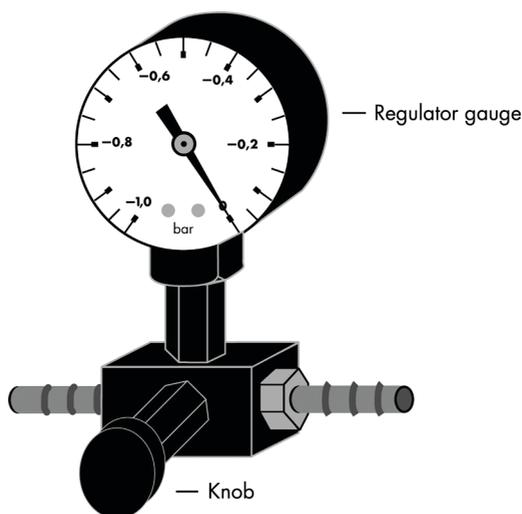

Figure 4. Schematic diagram of the Vacuum Regulator.
2. **Recommended:** Insert a VacValve into each luer slot of the QIAvac 24 Plus that is to be used (see Figure 4).
3. Insert a VacConnector into each VacValve (see Figure 4).
4. Place the QIAamp Mini columns into the VacConnectors on the manifold (see Figure 4).